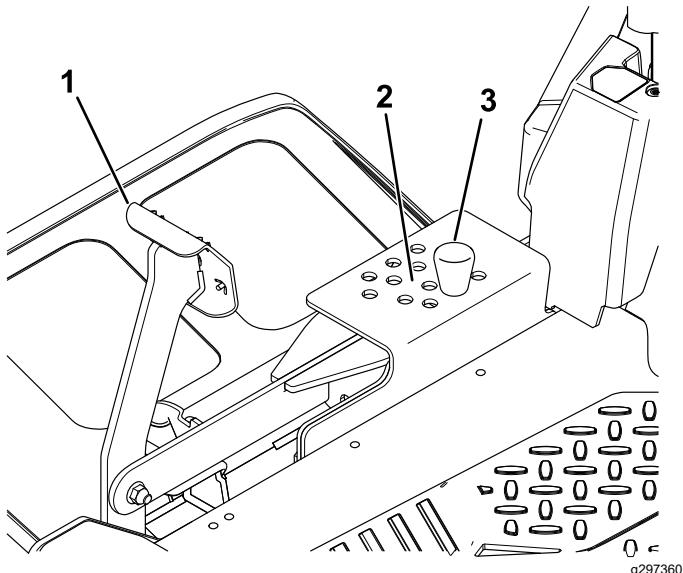

Figure 36
2. To adjust, remove the pin from the height-of-cut bracket (Figure 36).
3. Select a hole in the height-of-cut system corresponding to the desired height of cut and insert the pin (Figure 36).